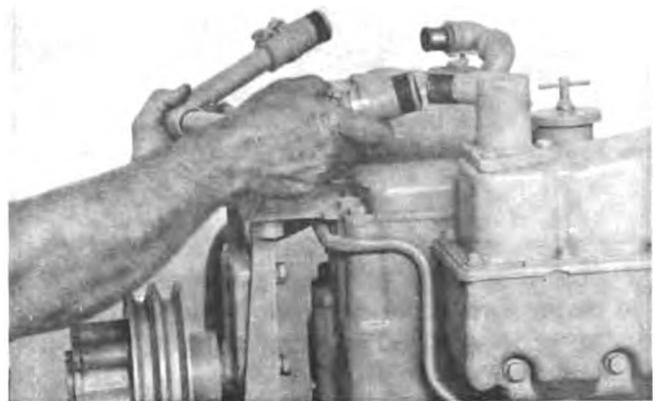

Fig. 0-20. Remove The Water Crossover Tube.
1. Loosen the clamps and remove the water crossover tube from the front of the aftercooler, Fig. 0-20.